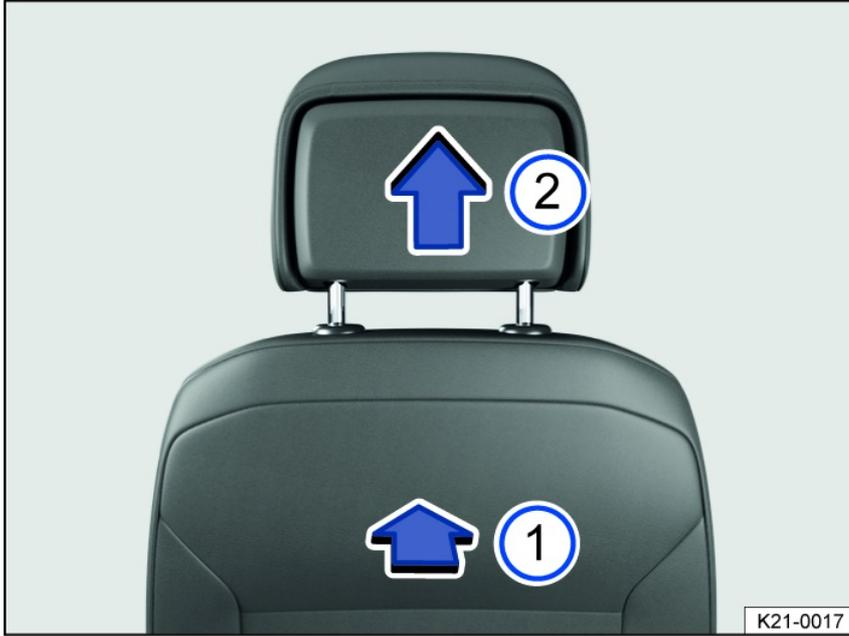

Fig. 85 General example: removing the front head restraint.
2. To release, find the notch on the rear side in the marked area, push inwards in the direction of the arrow fig. 85 and hold.
3. Remove the head restraints in the direction of the arrow fig. 85.